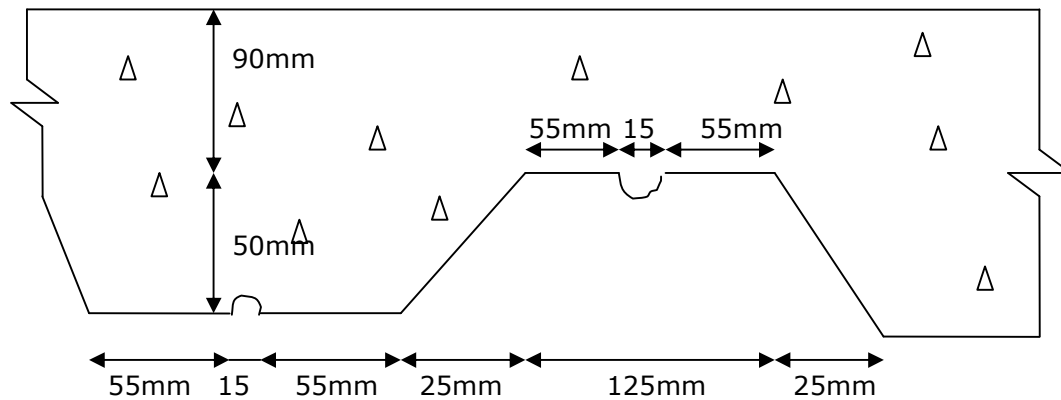

Figure.1
4. Check the adequacy of the continuous composite profile deck slab spanning 2m. The cross section of the profiled sheeting is as shown in figure.1. The live load on the slab is 2kN/m². The slab is propped at the centre during construction stage. Use M30 concrete. Consider the construction load as 0.75kN/m²